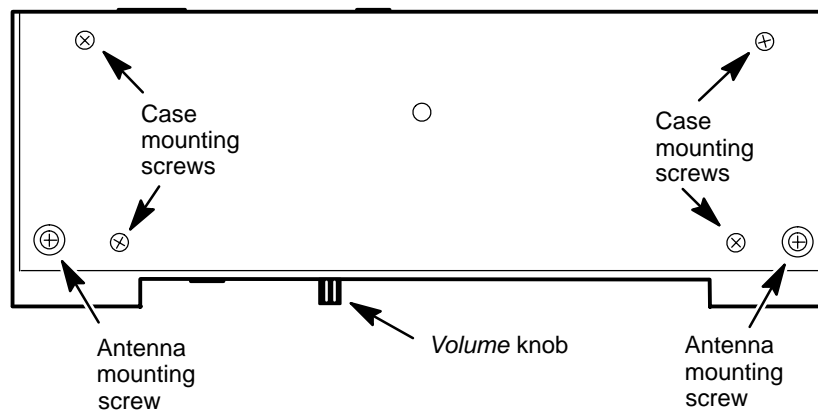

Figure 2. Bottom View of Case
2. Collapse the antennas and rotate them until they lie flat against the case. Place the receiver upside down. Remove and set aside the four screws securing the bottom of the case (Figure 2).
4. Rotate the antennas until they lie flat against the case. Turn the receiver upside down and secure the assembly with the four screws removed earlier (Figure 2, page 7). Check that the *Volume* knob rotates freely.
The antennas can be replaced without disassembling the case. Rotate the antenna you are replacing to its vertical position, collapse it, and remove the mounting screw through its access hole in the bottom of the case (Figure 2). Insert the new antenna and start the screw from the bottom, leaving it loose enough for you to rotate the entire antenna between your fingers. Rotate the antenna in this way as you lightly press it into the case until you feel the base seat in the slot of the bracket on the pc board. Tighten the screw.